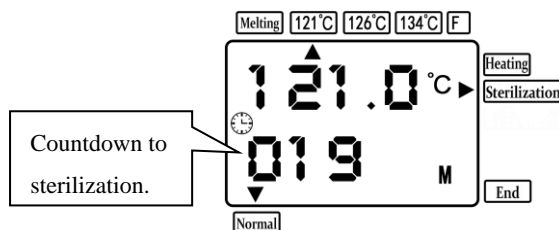

Fig. 17
(2) After the temperature in the pot rises to the sterilization temperature, it is in the state of sterilization and enters the sterilization countdown interface (**Fig.17**).